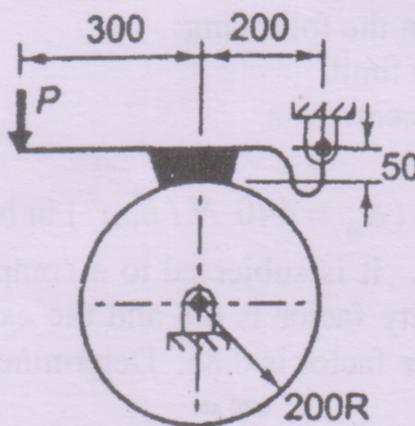

Figure 5: Single block brake
- VIII. (a) A torque of 10 kNm and a bending moment of 3 kNm is applied on a solid circular shaft. The material which is used for making shaft have ultimate tensile stress of 700 MPa and a ultimate shear stress of 500 MPa. Determine the diameter of the shaft by considering a factor of safety of 6. (10)
(b) The brake drum of the single block brake with short shoe shown in the Fig.5 rotates at 100 rpm with 250 Nm torque capacity. If the coefficient of friction is 0.35, then calculate the actuating force and hinge reaction for the clockwise rotation of the drum. (10)